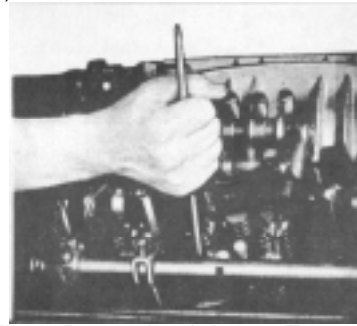

Fig. 7 Removing Injector From Cylinder Head
- (3) Crank the engine to bring the outer ends of the push rods of the injector and valve rocker arms in line horizontally.
- (4) Remove the two rocker shaft bracket bolts and swing the rocker arms away from the injector and valves (Fig. 7).
- (5) Remove the injector clamp bolt, special washer and clamp.
- (6) Loosen the inner and outer adjusting screws (certain engines have only one adjusting screw and lock nut) on the injector rack control lever and slide the lever away from the injector.
- (7) Lift the injector from its seat in the cylinder head.
- (8) Cover the injector hole in the cylinder head to keep foreign material out.
- (9) Clean the exterior of the injector with clean fuel oil and dry it with compressed air.